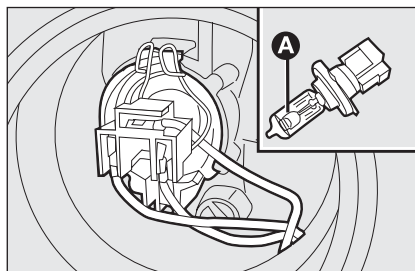

fig. 25
- ☐ remove the bulb **A**-fig. 25 from connector **B** and replace it;